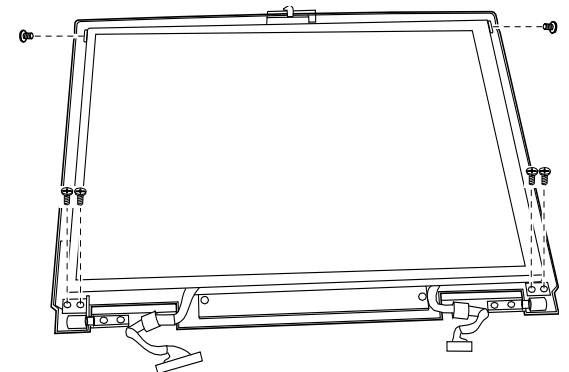

Figure 5-24. Removing the 13.3 Inch LCD
1. Reconnect the cables to LCD. Fit the LCD back into place and secure with six screws. (fig 5-24)